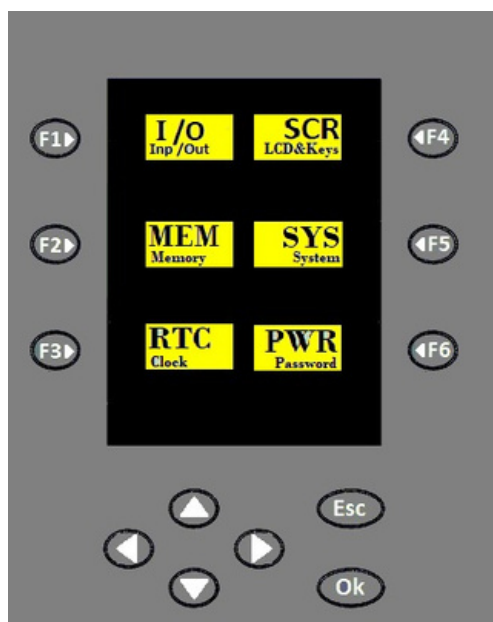

Figure 18: Main Menu Screen of the System
- In the system's main menu, the color display depicted in Figure 18 is visible. This screen serves as the primary menu of the system.